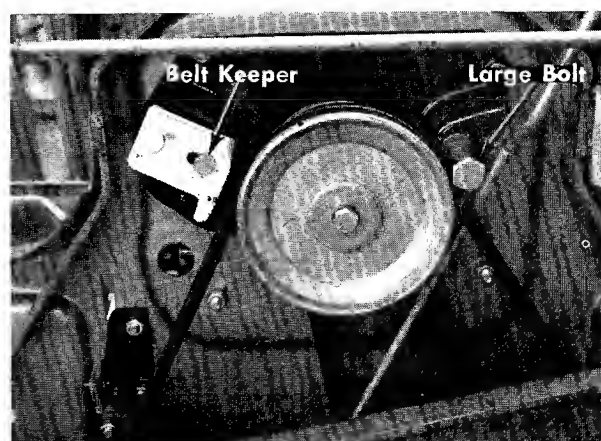

FIGURE 26. BELT KEEPER
Step 2. Remove the belt keeper and large bolt on the engine pulley. See figure 26.